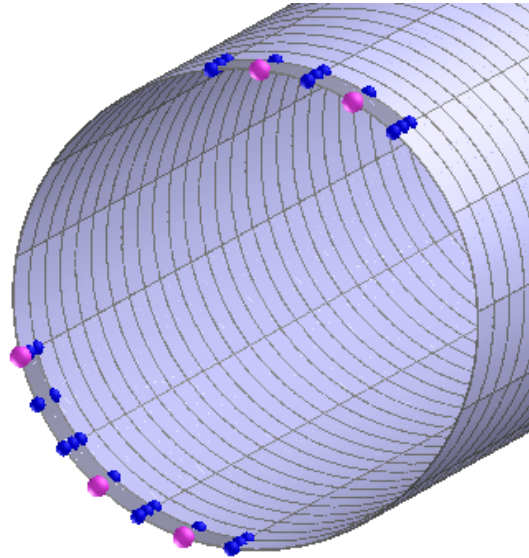

Figure 5.30 Choose Nodes for Creating Seams.
- Choose the nodes in the path of the seam to be created. To select a node: Left-click on the node with the *shift-key* held down. Note: You should only select nodes on the corners of the elements, not mid-side nodes. Once three or more nodes are selected the seam connecting these nodes is drawn if *Coustyx* finds a valid path. Seams are constructed based on the shortest path identified by *Coustyx* while connecting all the selected nodes. It may appear that a seam is not being drawn, if *Coustyx* cannot find a closed path. However, as more nodes are selected in a valid closed path, the seam will be drawn. Only the last selected node can be unselected without disturbing the rest of the node list in the seam. If a node from the seam is arbitrarily unselected, there will be problem in finding the correct closed path. (Figure 5.30)